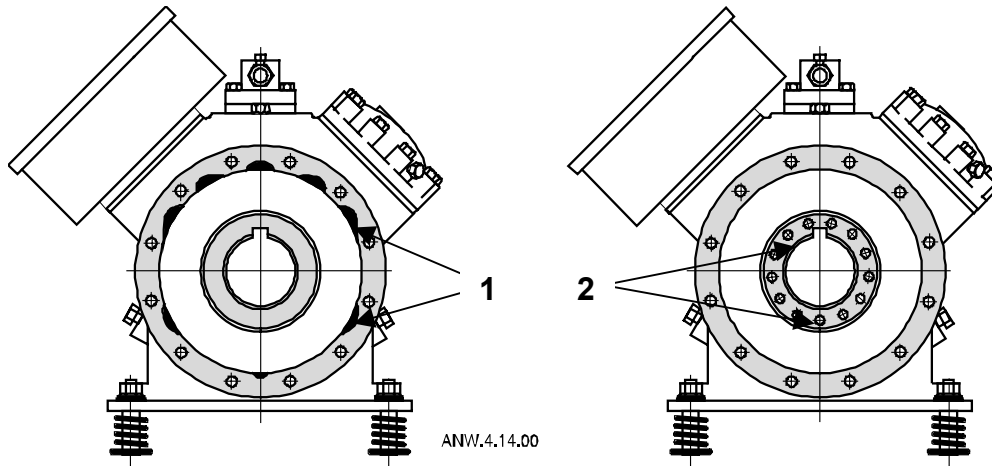

Fig.30 View of compressor motor after removal of suction chamber (by-pass body left)
Compressors P4S and P6S are manufactured using by-pass bodies (see figure 30). The suction gas flows through passages around the stator (1) and not through holes in the rotor (2) as in the past, this reduces losses and thereby increases efficiency. The P8S has not been affected by these changes.